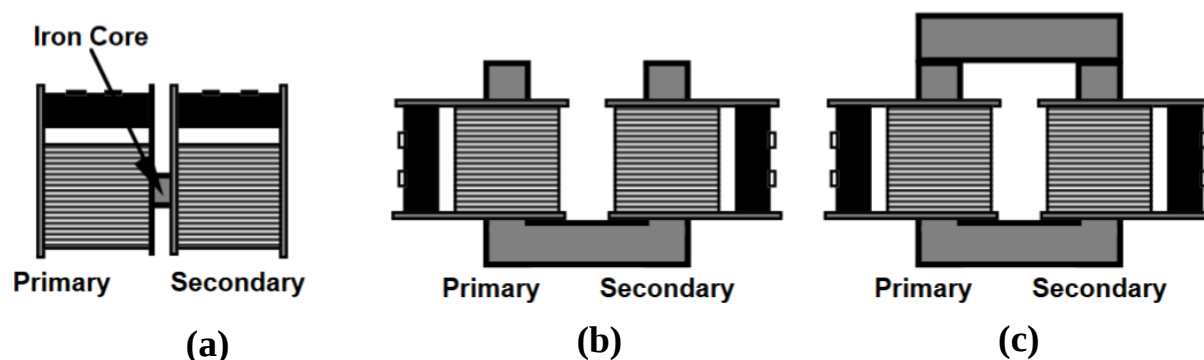

Figure 2. Different Core configurations
10. Insert the straight cross piece into both coils (Figure 2.a) and repeat measurements from steps 4-9.
11. Replace the straight cross piece with the open U-shaped Core (Figure 2.b) and repeat steps 4-9.
12. Close the U-shaped core (Figure 2.c) but don't bolt down the iron frame.